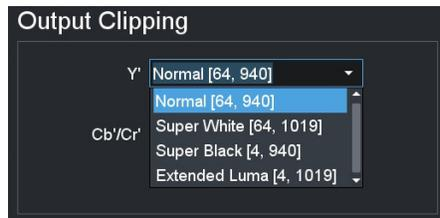

Figure 49 Example of Video Correction > SDR/HDR Conversion > Output Clipping
**Figure 49** shows the Output Clipping > Y' settings.